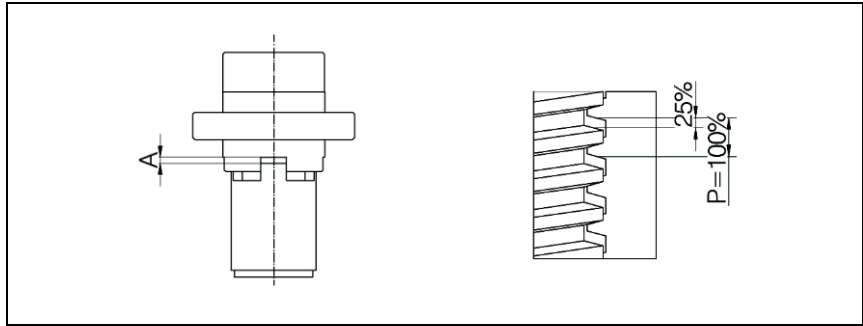

Fig. 18: Safety trap nut SIFA: Dimension "A" for comparison when checking wear
3. If a safety nut SIFA is fitted: Check wear in accordance with the Fig. 18 (right hand picture) .